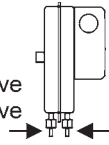

Figure 2
Air Sampling Connection (Figure 2)
Model FS-751 is designed to accept firm-wall sample lines of 1/4" OD tubing by means of ferrule and nut compression connections. An optional 1/4" adapter, suitable for slip-on flexible tubing is available: order part number 18311. For sample lines of up to 10 feet, 1/4" OD tubing is acceptable. For lines up to 20 feet, use 1/4" ID tubing. For lines up to 60 feet, use 1/2" ID tubing. Locate the sampling probe a minimum of 1.5 duct diameters downstream from the air source. Install the sampling probe as close to the center of the airstream as possible. Refer to Figure 2 to identify the high pressure inlet (H) and the low pressure inlet (L). Connect the sample lines as follows: